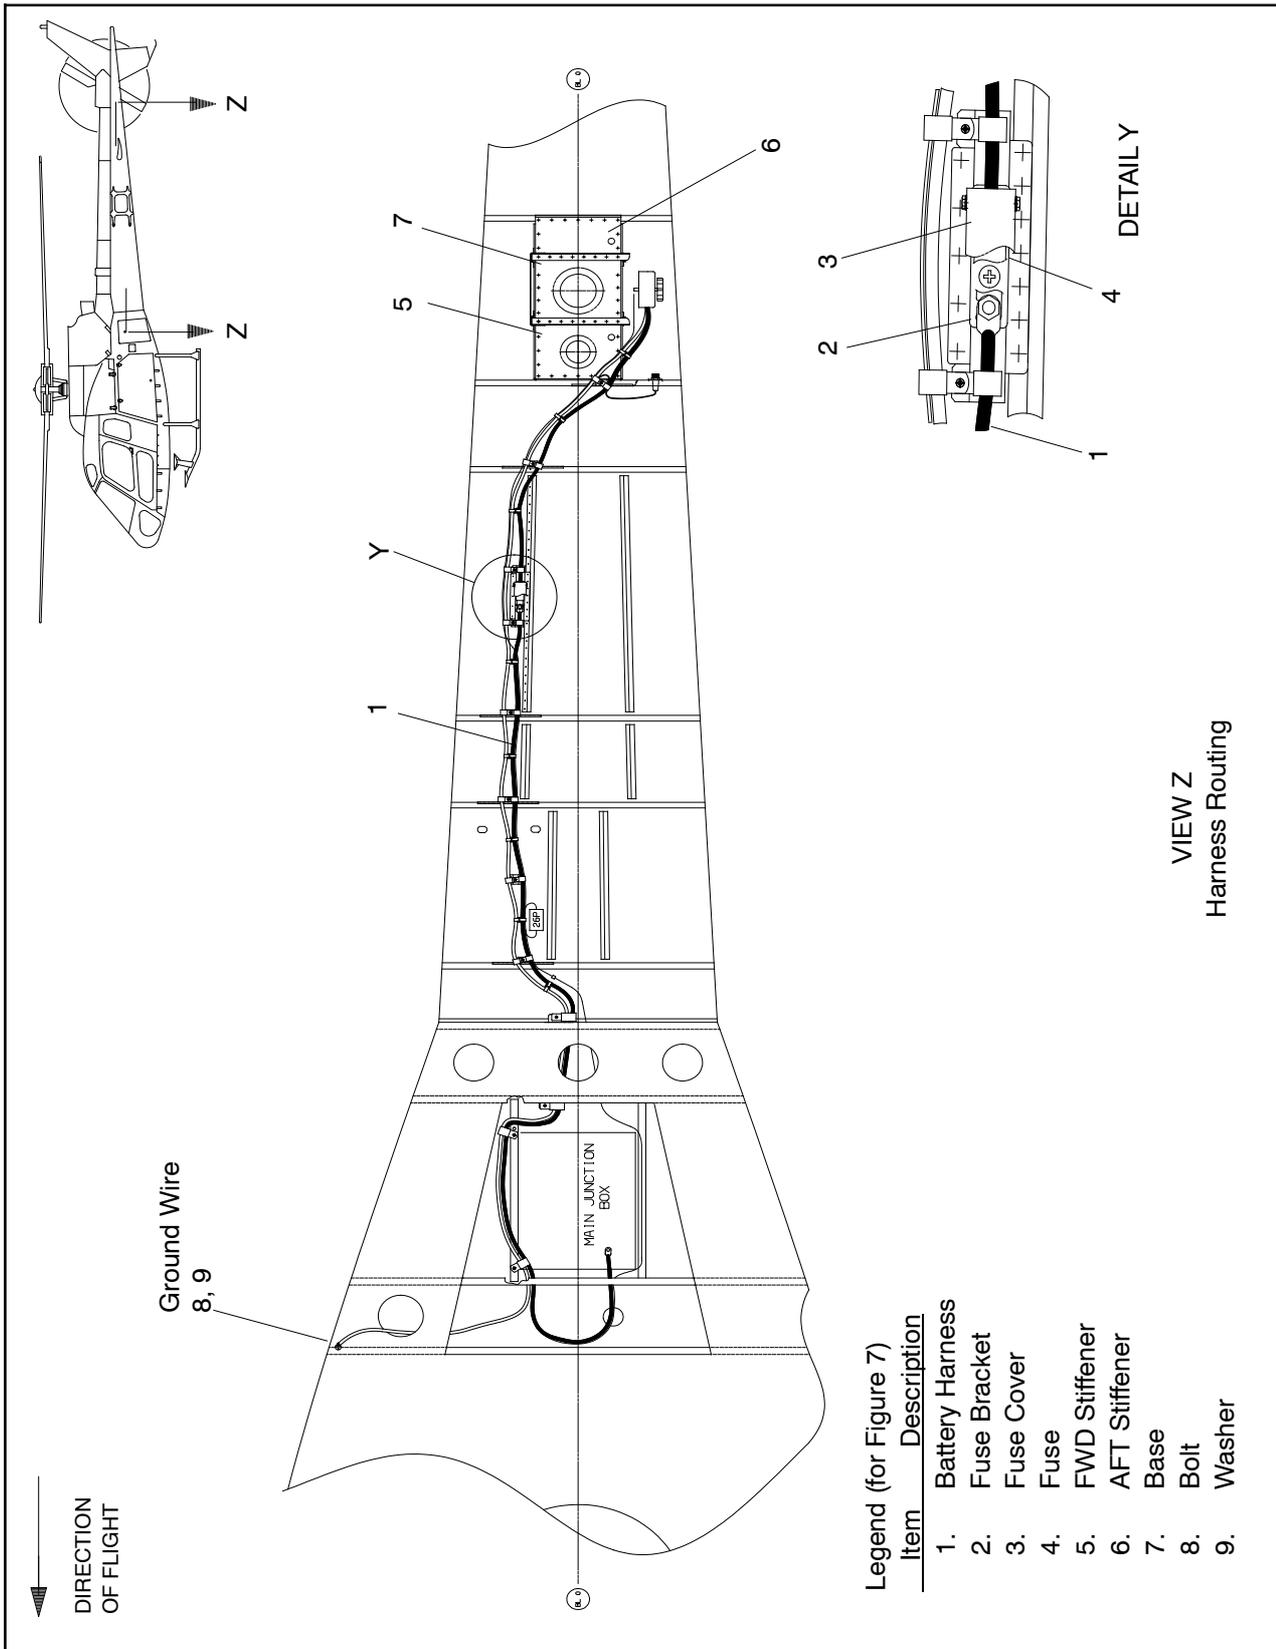
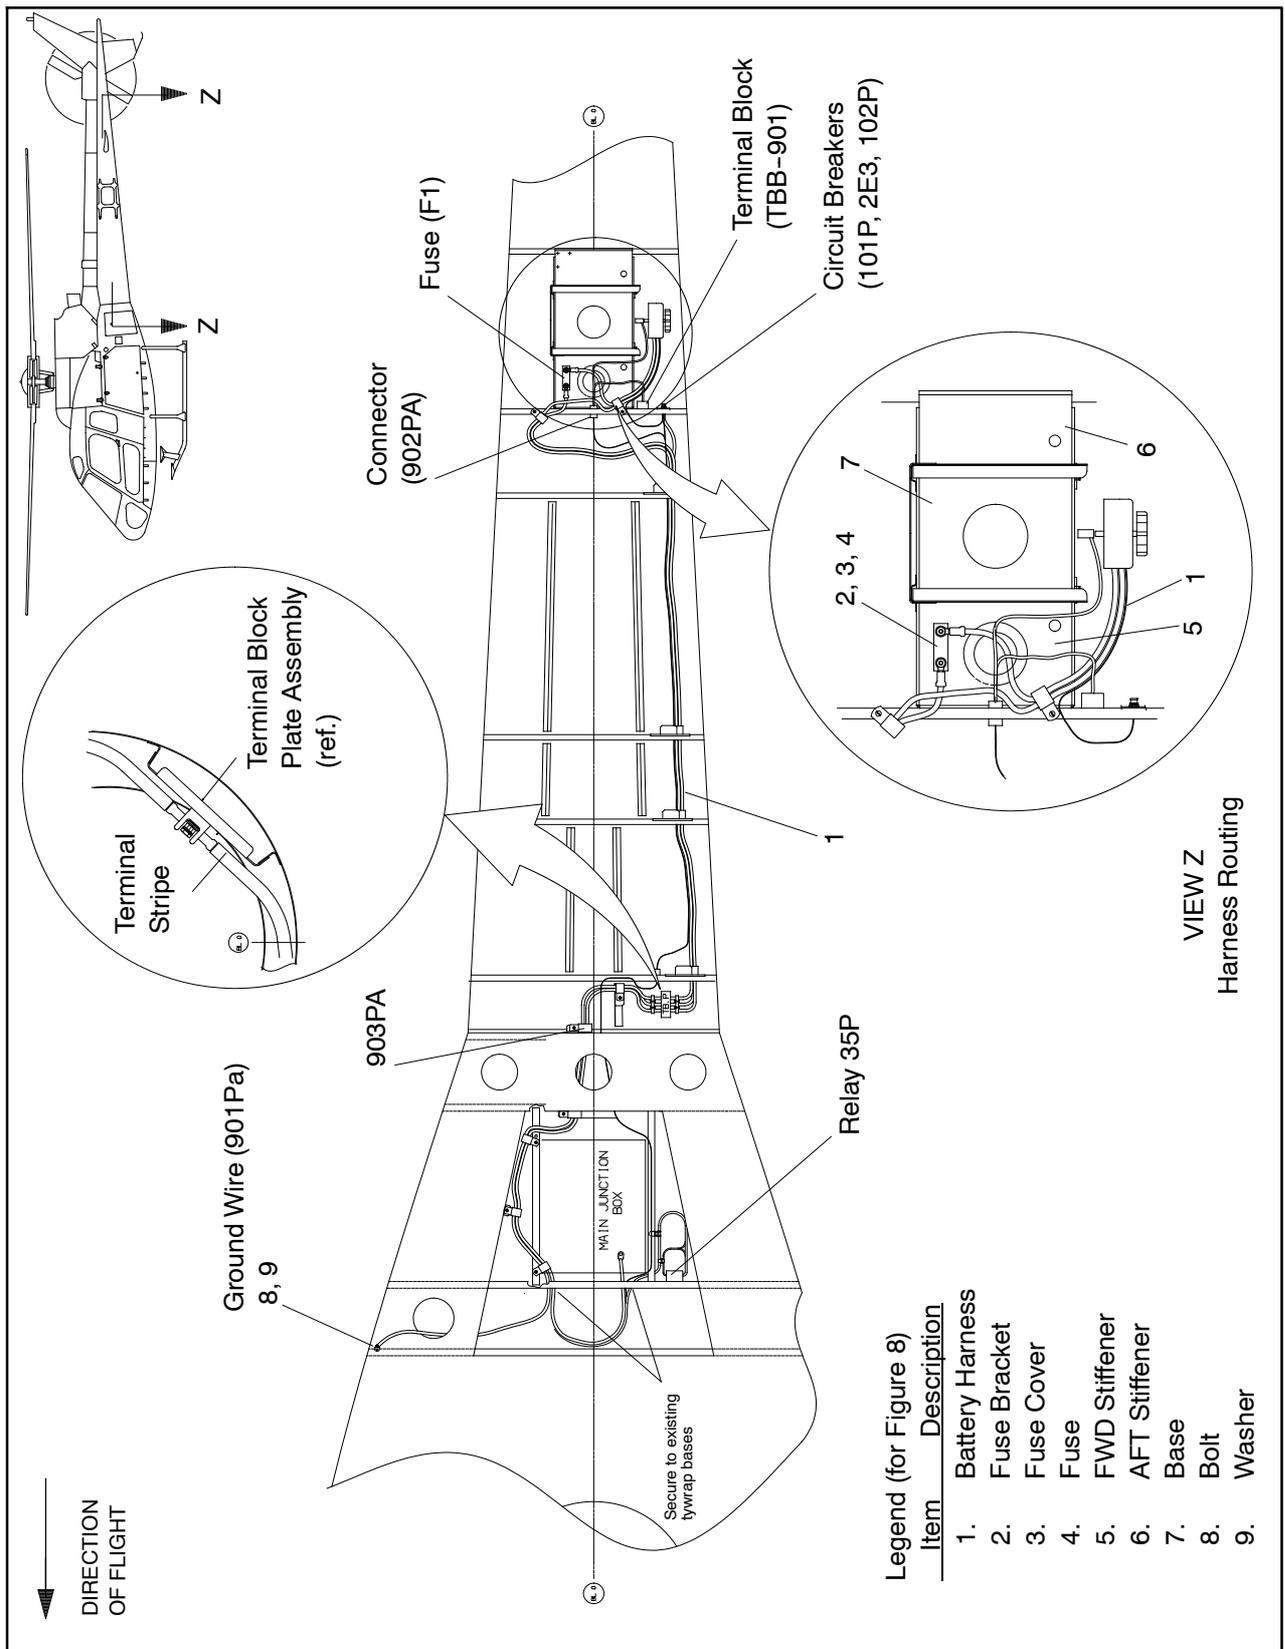
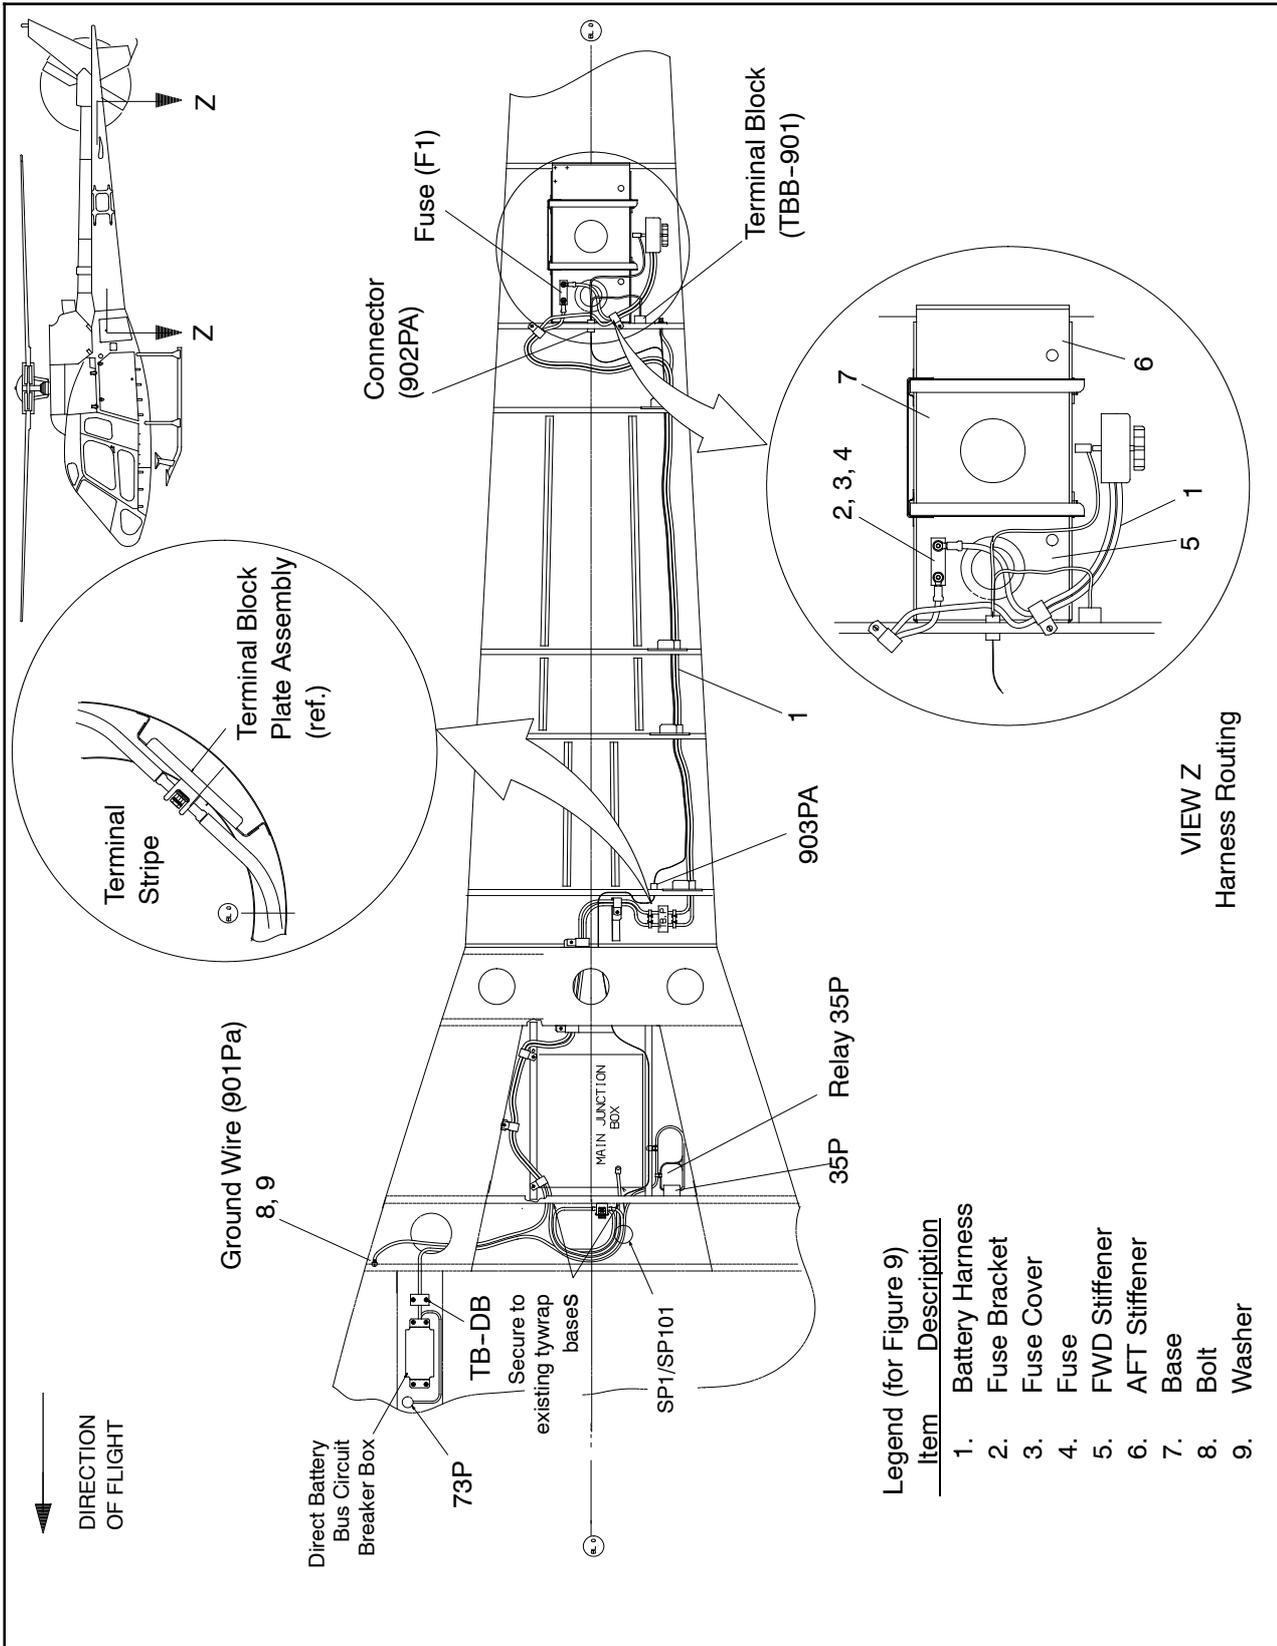

Figure 7 AS 350 Harness Routing - Tail Boom PRE AMS 07-3273 and 3274
Figure 8 AS 350 Harness Routing - Tail Boom POST AMS 07-3273 and 3274
Figure 9 AS 350 Harness Routing - Tail Boom MOD AMS 07-4280 (AS 350 B3 only)
- Base (Refer to Figures 7, 8, 9 and 10)
- FWD and AFT Stiffener (Refer to Figures 7, 8, 9 and 10)
For AS 350 B2/B3 AMS 07 4280, the fuse holder assembly is removed from the tailboom. Refer to Figure 9.
For AS 350 POST AMS 07-3273 and 3274, the fuse holder assembly is located on the battery tray. Refer to Figure 8.
For AS 350 Harness routing in the tail boom for PRE AMS 07-3273 and 3274 refer to Figure 7. For AS 350 Harness routing in the tail boom for POST AMS 07-3273 and 3274 refer to Figure 8. For AS 350 Harness routing in the tailboom for MOD AMS 07-4280 (AS 350 B3) refer to Figure 9. For AS 355 Harness routing refer to Figure 10.